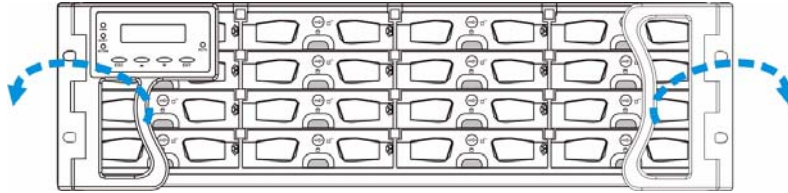

Fig. 6.19 Open the Front Handles
- Handles: If the failed hard drive is behind either the left or right front handle, unfold the handles to open the front access to the drive trays. (See *Figure 6.19*)